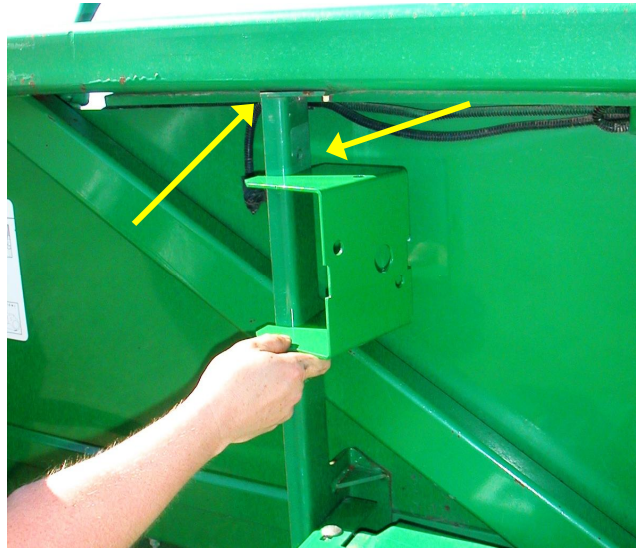

Figure 2
2. Weld top and bottom bracket. (See **Figure 2**)